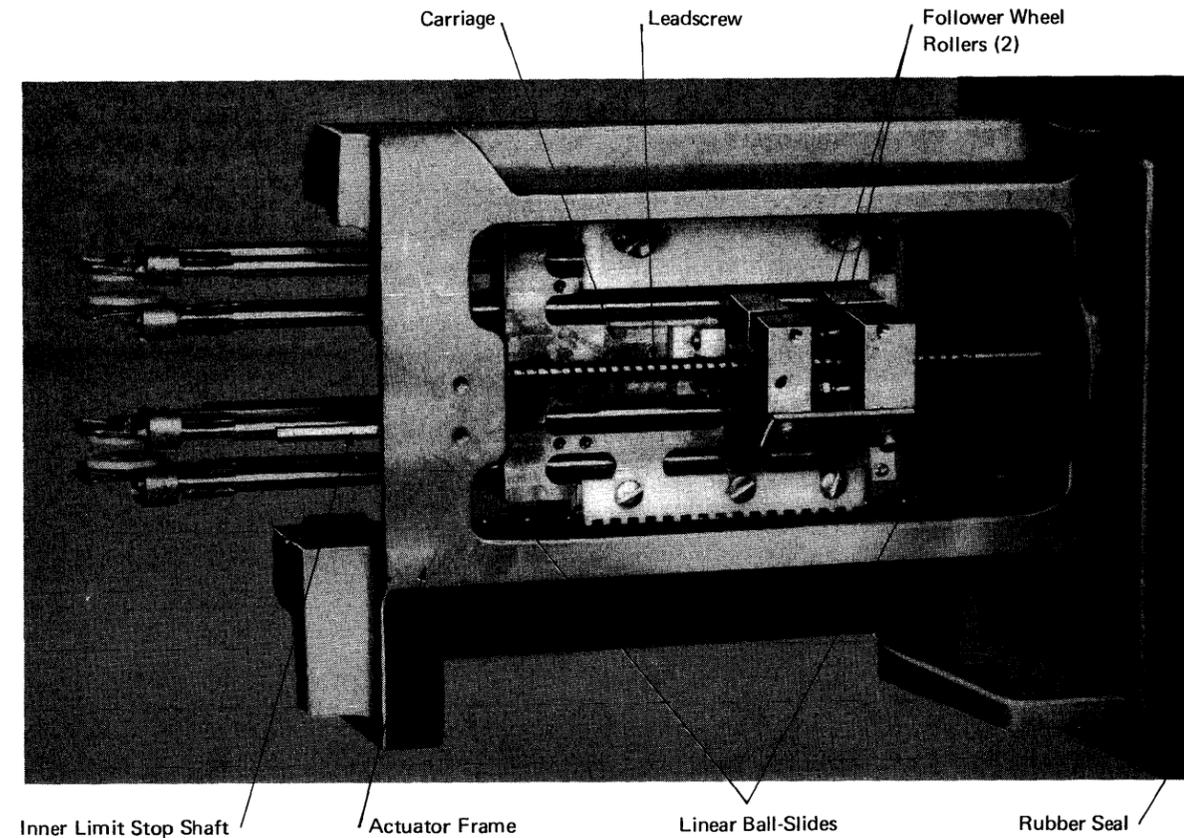
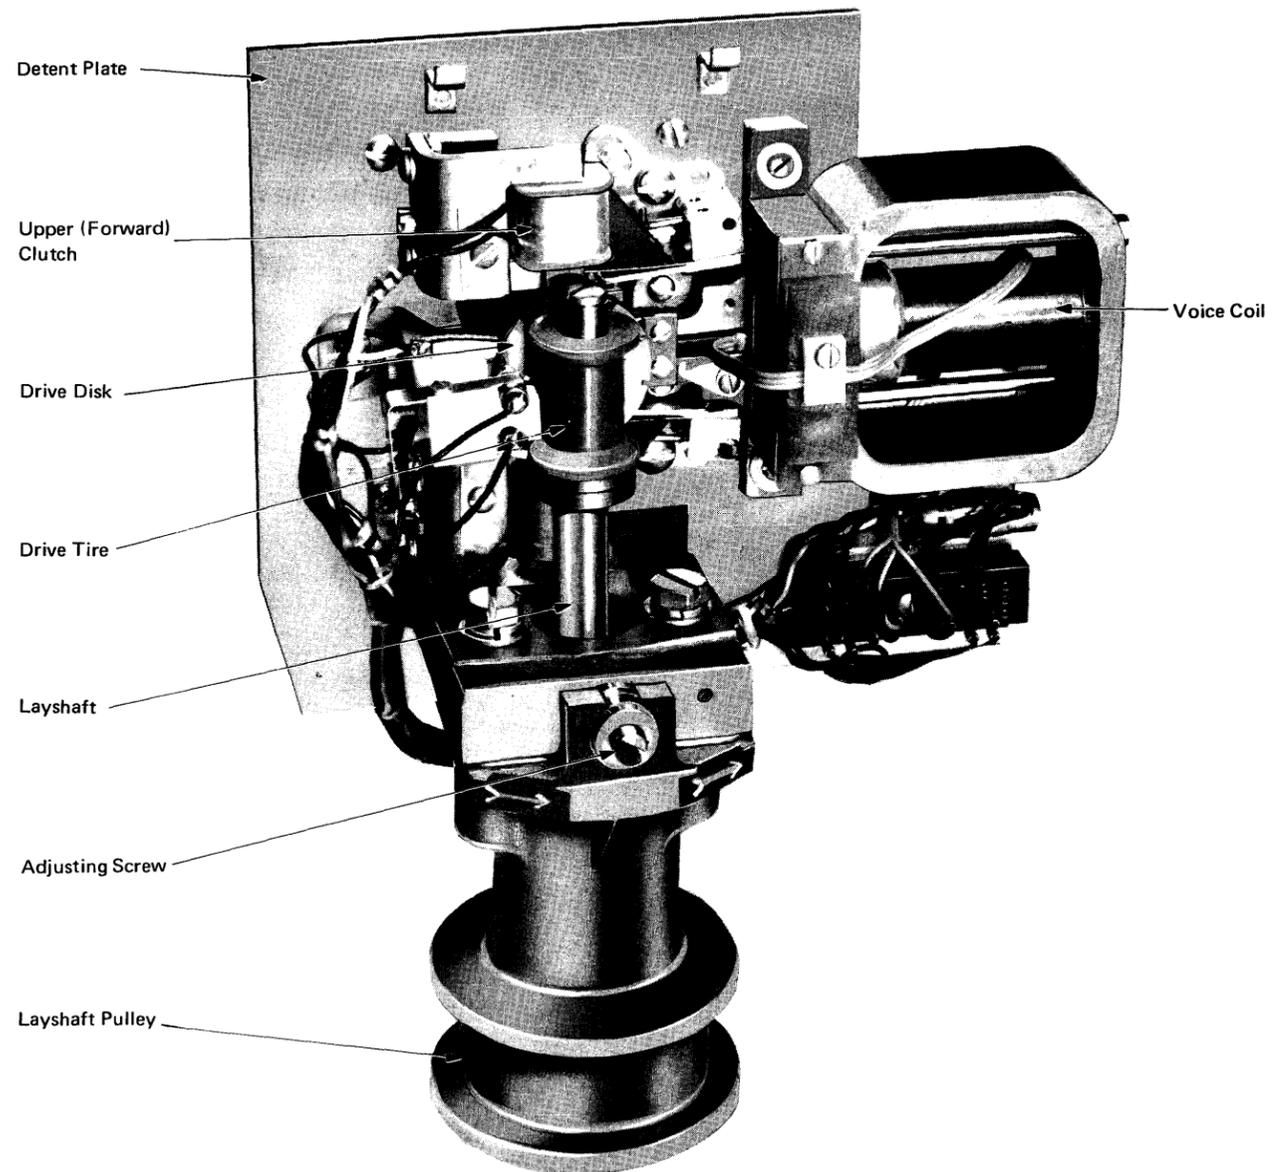

Figure 2-25. Actuator Carriage Assembly [07478]
Figure 2-27. Layshaft Assembly (EC Level 391962) [07549]
Carriage or leadscrew parts (Figure 2-25) are not field replaceable units; if they are defective, change the complete actuator assembly. Handle and store all parts of the actuator assembly with extreme care. In particular, keep the leadscrew, follower wheels, linear ball slides, drive disk, and drive tire free of damage or contamination.
*Note:* The carriage inner limit stop shaft on the actuator casting (see Figure 2-25) is factory-set to track 207½ and should only be moved during conversion for a 5444 Model 1 (see 4.4.2) or during actuator alignment on a Model 1 (see 4.4.1.3).
*Note:* On 5444 Model 1 (103 tracks only), remove the inner limit stop shaft (see Figure 2-25) and the carriage overrun interlock switch to allow the carriage to extend to track 200. The drive disk *and* the inner limit stop shaft must not be loose at the same time.
6. Adjust the actuator assembly sideways, with a 0.002 in. (0,05 mm) feeler gage between actuator alignment tool face and hub tool boss. The gap should be 0.002 in.  $\pm$  0.001 (0,05 mm  $\pm$  0,03). A suggested method of moving the actuator assembly is to press the detent plate (see Figure 2-27) with the thumbs, against the rubber seal (see Figure 2-25).
1. Check that drive disk is in adjustment by moving carriage to inner limit stop shaft (see Figure 2-25). The track-crossing sensor hole should be between the '7' and '8' slots in the drive disk. The carriage scale pointer should indicate over 200.
The layshaft assembly is lubricated for life and is not to be dismantled. If any failure demands that a layshaft assembly be changed, fit also a new late level (after EC level 391962) actuator assembly, part 2598200 (a late level actuator assembly complete with layshaft, together with fitting instructions and machine record update). Early level layshafts cannot be replaced. Some earlier units have a different type of layshaft and drive tire. Later units, from EC level 391962, have an adjusting screw on the layshaft casting (Figure 2-27). The two types are not interchangeable.